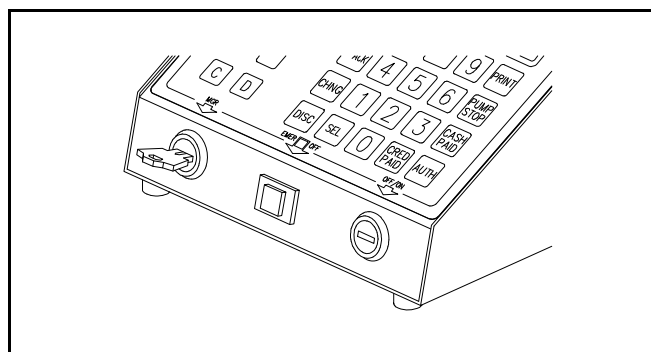

Figure 18
3. Put the Manager's key switch in the **ON** (horizontal) position. See Figure 18.